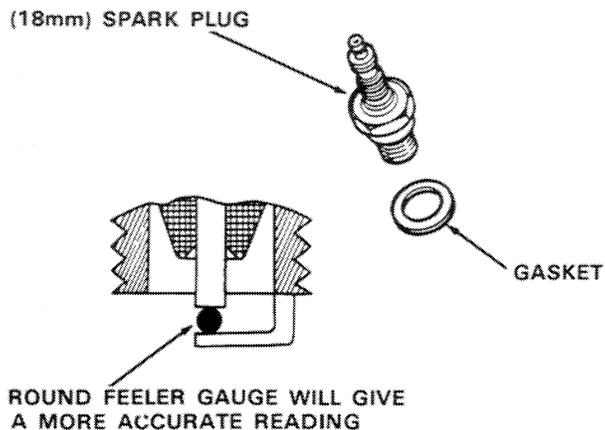

Figure 3
9. Before installing the spark plugs, clean them thoroughly and check them for burned electrodes or cracked insulation. Replace them if necessary. Regap all plugs to .025" setting, Figure 3.
10. Replace all spark plug gaskets, Figure 3, before installing for proper seating and sealing. Install the spark plugs finger tight. Using the exact size spark plug wrench or a thin wall deep socket, torque the spark plugs 32 to 35 ft. lbs.